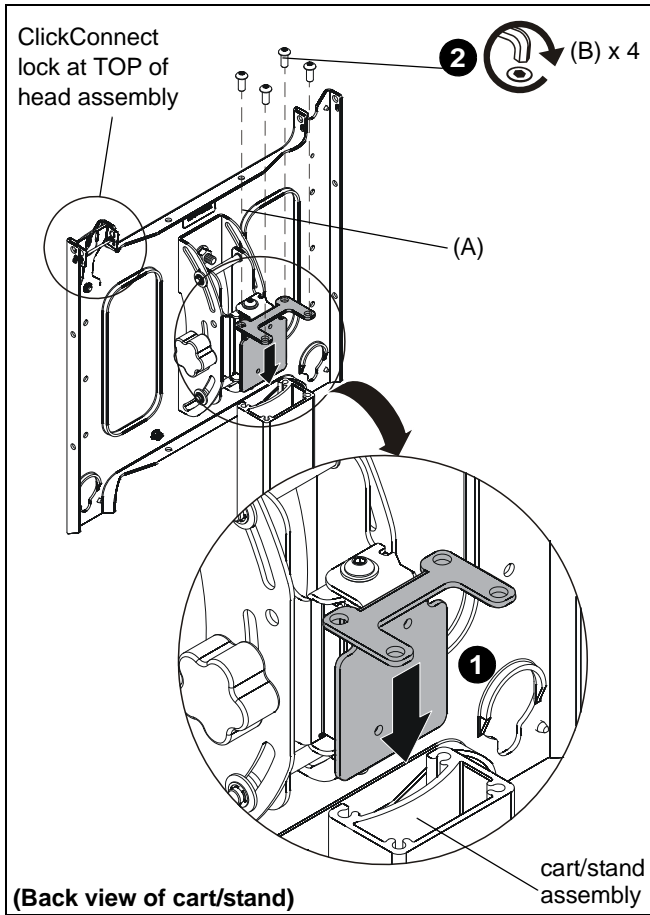

Figure 1
IMPORTANT ! : When attaching head assembly ensure that the ClickConnect lock is at TOP of head assembly. (See Figure 1)
1. Slide swivel accessory (A) into the cart/stand assembly. (See Figure 1)
2. Attach swivel accessory to cart/stand using four 5/16-18 x 3/8" button head cap screws (B). (See Figure 1)